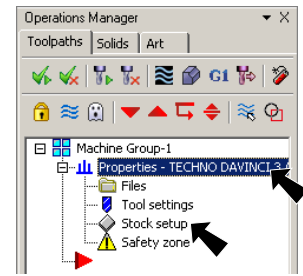

Fig. 14
Step 2. If Machine Group is **not** displayed in the Operations Manager, **Fig. 14**, click Machine Type Menu > Mill > Default.
Step 3. Expand **Properties** (click the +) in the Toolpaths Manager, **Fig. 14**.
Step 4. Click **Stock Setup** in the Toolpaths Manager, **Fig. 14**.